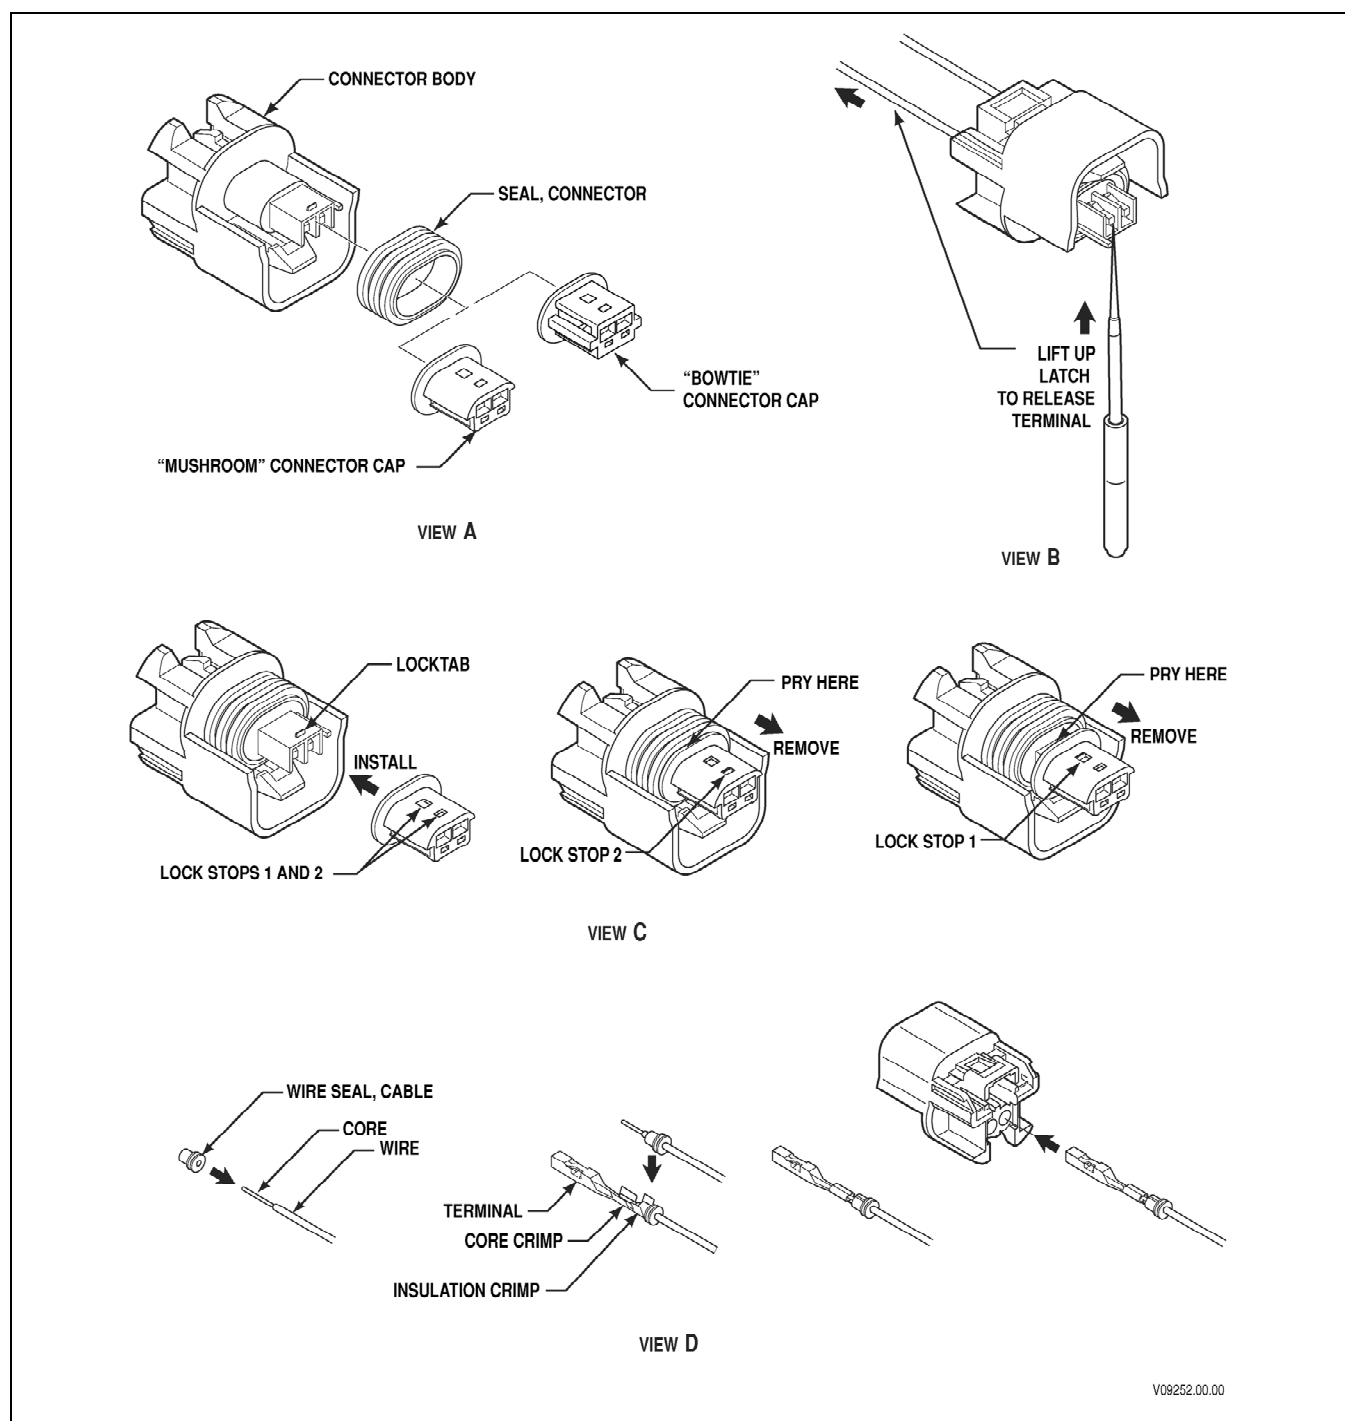

Figure G-11. Delphi-Packard GT150 Series Connectors—Push-to-Seat (Speed Sensor, Accumulator Solenoid, Retarder Solenoid)
3. Position the wire seal between the two insulation crimping tabs (refer to Figure G-11, View D).